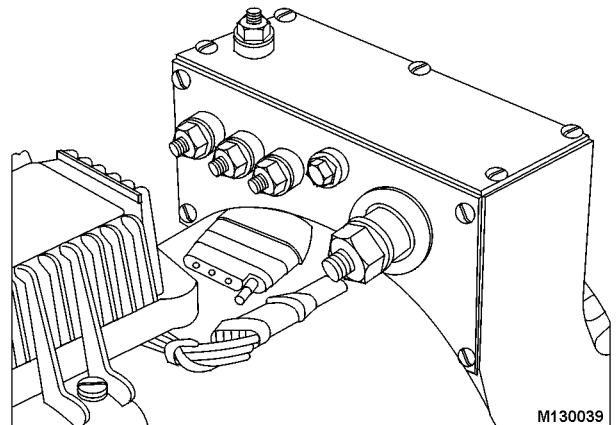

FIGURE 10-42.
2. Using mounting hardware (coated with Loctite), attach regulator to end housing (Figure 10-42). Torque screw to **32 in. lbs. (3.6 N.m)** maximum.